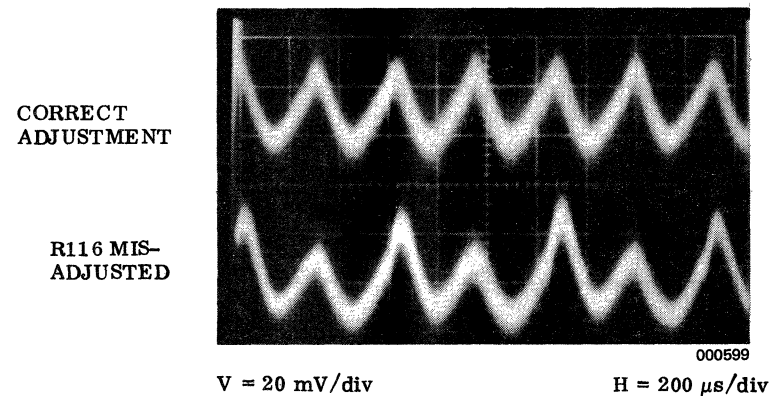

Figure 9-7. Harmonic Null Adjustment Waveforms
- b. As necessary, adjust potentiometer R116 (harmonic null) for the correct waveform as shown in Figure 9-7.